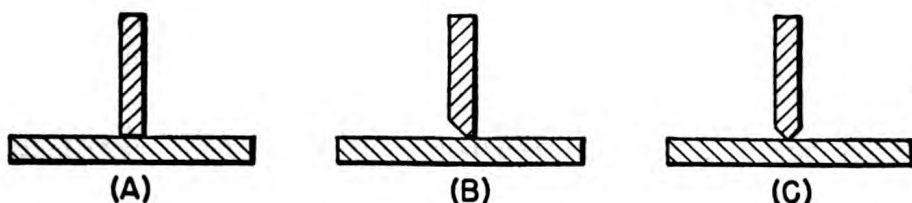

Figure 27.—Types of tee joints.
The PLAIN TEE JOINT (*A*) of figure 27 requires no preparation other than cleaning the end of the vertical part, and the surface of the horizontal part. The weld is made at the base of the vertical part, from both sides, so that heat penetrates into the intersection, or root, and is called a “fillet”
If the parts are thicker than  $\frac{1}{2}$  inch you should bevel the end of the vertical part on both sides as in (C). Use a filler rod when you weld any of the tee joints shown in figure 27.